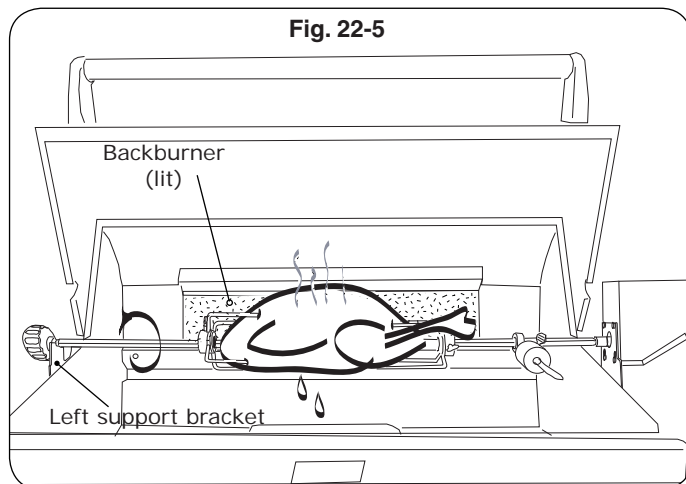

Fig. 22-5
9. Slide the counterbalance weight up or down the arm until the rod rotates most evenly then tighten thumb screw (Fig. 22-5).